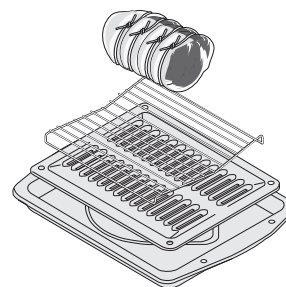

Figure 23: Broil pan, insert, and roasting rack
4. Place meat (fat side up) on insert (Figure 23). Place prepared food on oven rack and slide into oven.
- Use the broiler pan and insert, as well as the roasting rack (Figure 23) (some models). The broiler pan will catch grease spills, and the insert will help prevent splatters. The roasting rack will hold the meat.
- Always use the broiler pan and its insert when broiling, if included. It allows the dripping grease to be kept away from the high heat of the broil element (Figure 23).